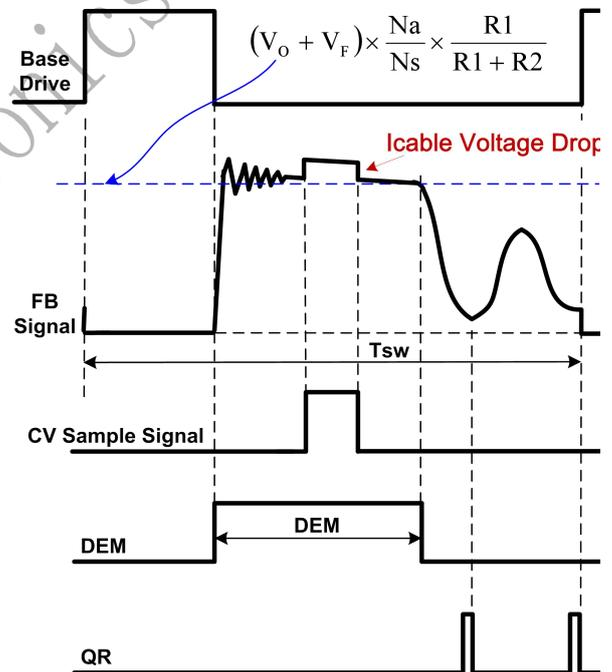

Fig.2
In Primary Side Regulation (PSR) control, the output voltage is sensed on the auxiliary winding during the transfer of transformer energy to the secondary. Fig.2 illustrates the timing waveform of CV sampling signal, demagnetization signal (DEM) and quasi-resonant (QR) trigger signal in DP1801KB. When the CV sampling process is over, the internal sample/hold (S&H) circuit captures the error signal and amplifies it through the internal Error Amplifier (EA). The output of EA is sent to the Quasi Resonant PSR CV Modulator (QR-CVM) for CV regulation. A valley is selected to trigger new PWM cycle by the output of the QR-CVM block, which is determined by the load. The internal reference voltage for EA is trimmed to 1.3V with high accuracy.
During the CV sampling process, an internal variable current source is flowing to FB pin for Cable Drop Compensation (CDC). Thus, there is a step at FB pin in the transformer demagnetization process, as shown in Fig.2. Fig.2 also illustrates the equation for "demagnetization plateau", where Vo and Vf is the output voltage and diode forward voltage; R1 and R2 is the resistor divider connected from the